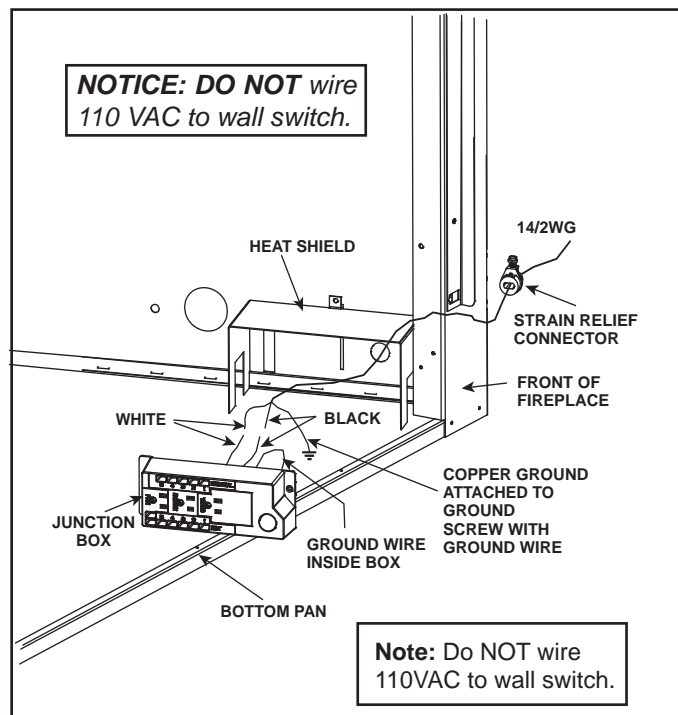

Figure 12.2 Junction Box Detail
- Remove the screw attaching the junction box to the outer shell, rotate the junction box inward to disengage it from the outer shell (see Figure 12.2).